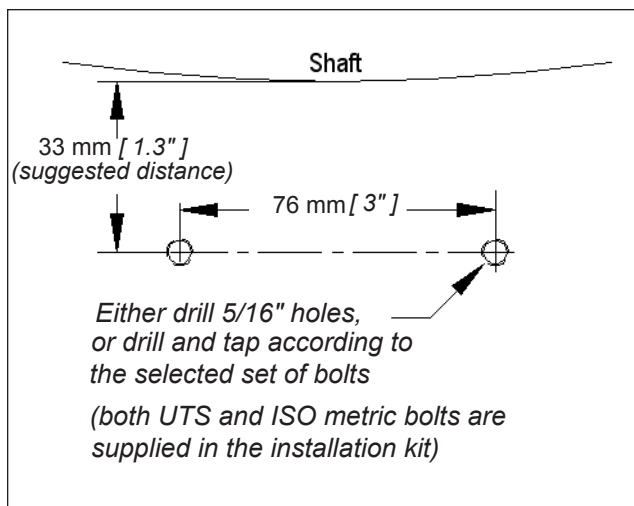

Figure 5 : Mounting holes for the synchronization probe
1. Drill two 5/16" holes in the mounting bracket at the correct distance from the shaft (refer to Figure 5 : "Mounting holes for the synchronization probe").
1. Select either 5/16-18 x 1-1/4", or M8x1.25x30mm bolts. Drill and tap two holes for the selected thread in the mounting surface at the correct distance from the shaft (refer to Figure 5 : "Mounting holes for the synchronization probe").